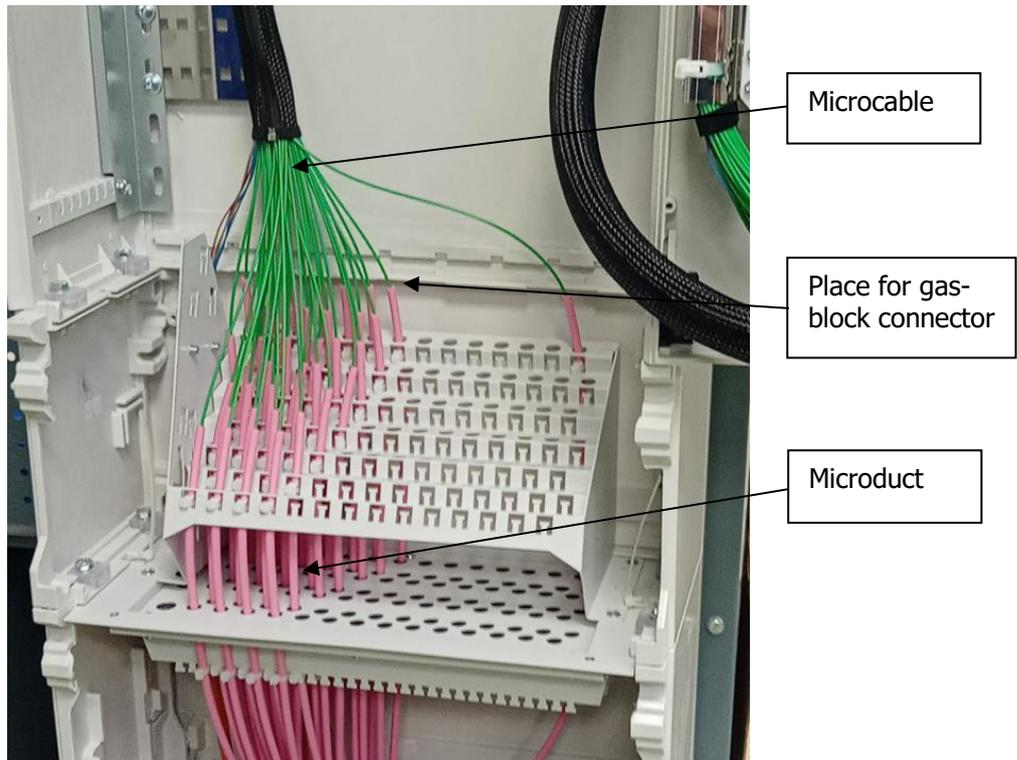

Fig.6. Microducts fixing and cutting to proper length.
7. Punch the foam cable entry to put the cable/microduct through and fill the foam plate with cables/microduct starting from the cabinet interior and progressing to the cabinet front keeping in mind that each following row is 20 mm shorter [Fig.6.]. In case the cable entries with brush seals are used push the cable through and fix it to the additional fixing plate [Fig.4.].
8. The subscriber tubes located the deepest in the cabinet should reach the protrusion on the cabinet back wall [Fig.6.]. At the end of each microduct a gas-block connectors can be installed. [Fig.6.].
10. Microduct lengths depend on their position in the cabinet. The longest microducts are located on the cabinet rear wall side, the shortest ones on the cabinet front side [Fig.6.].